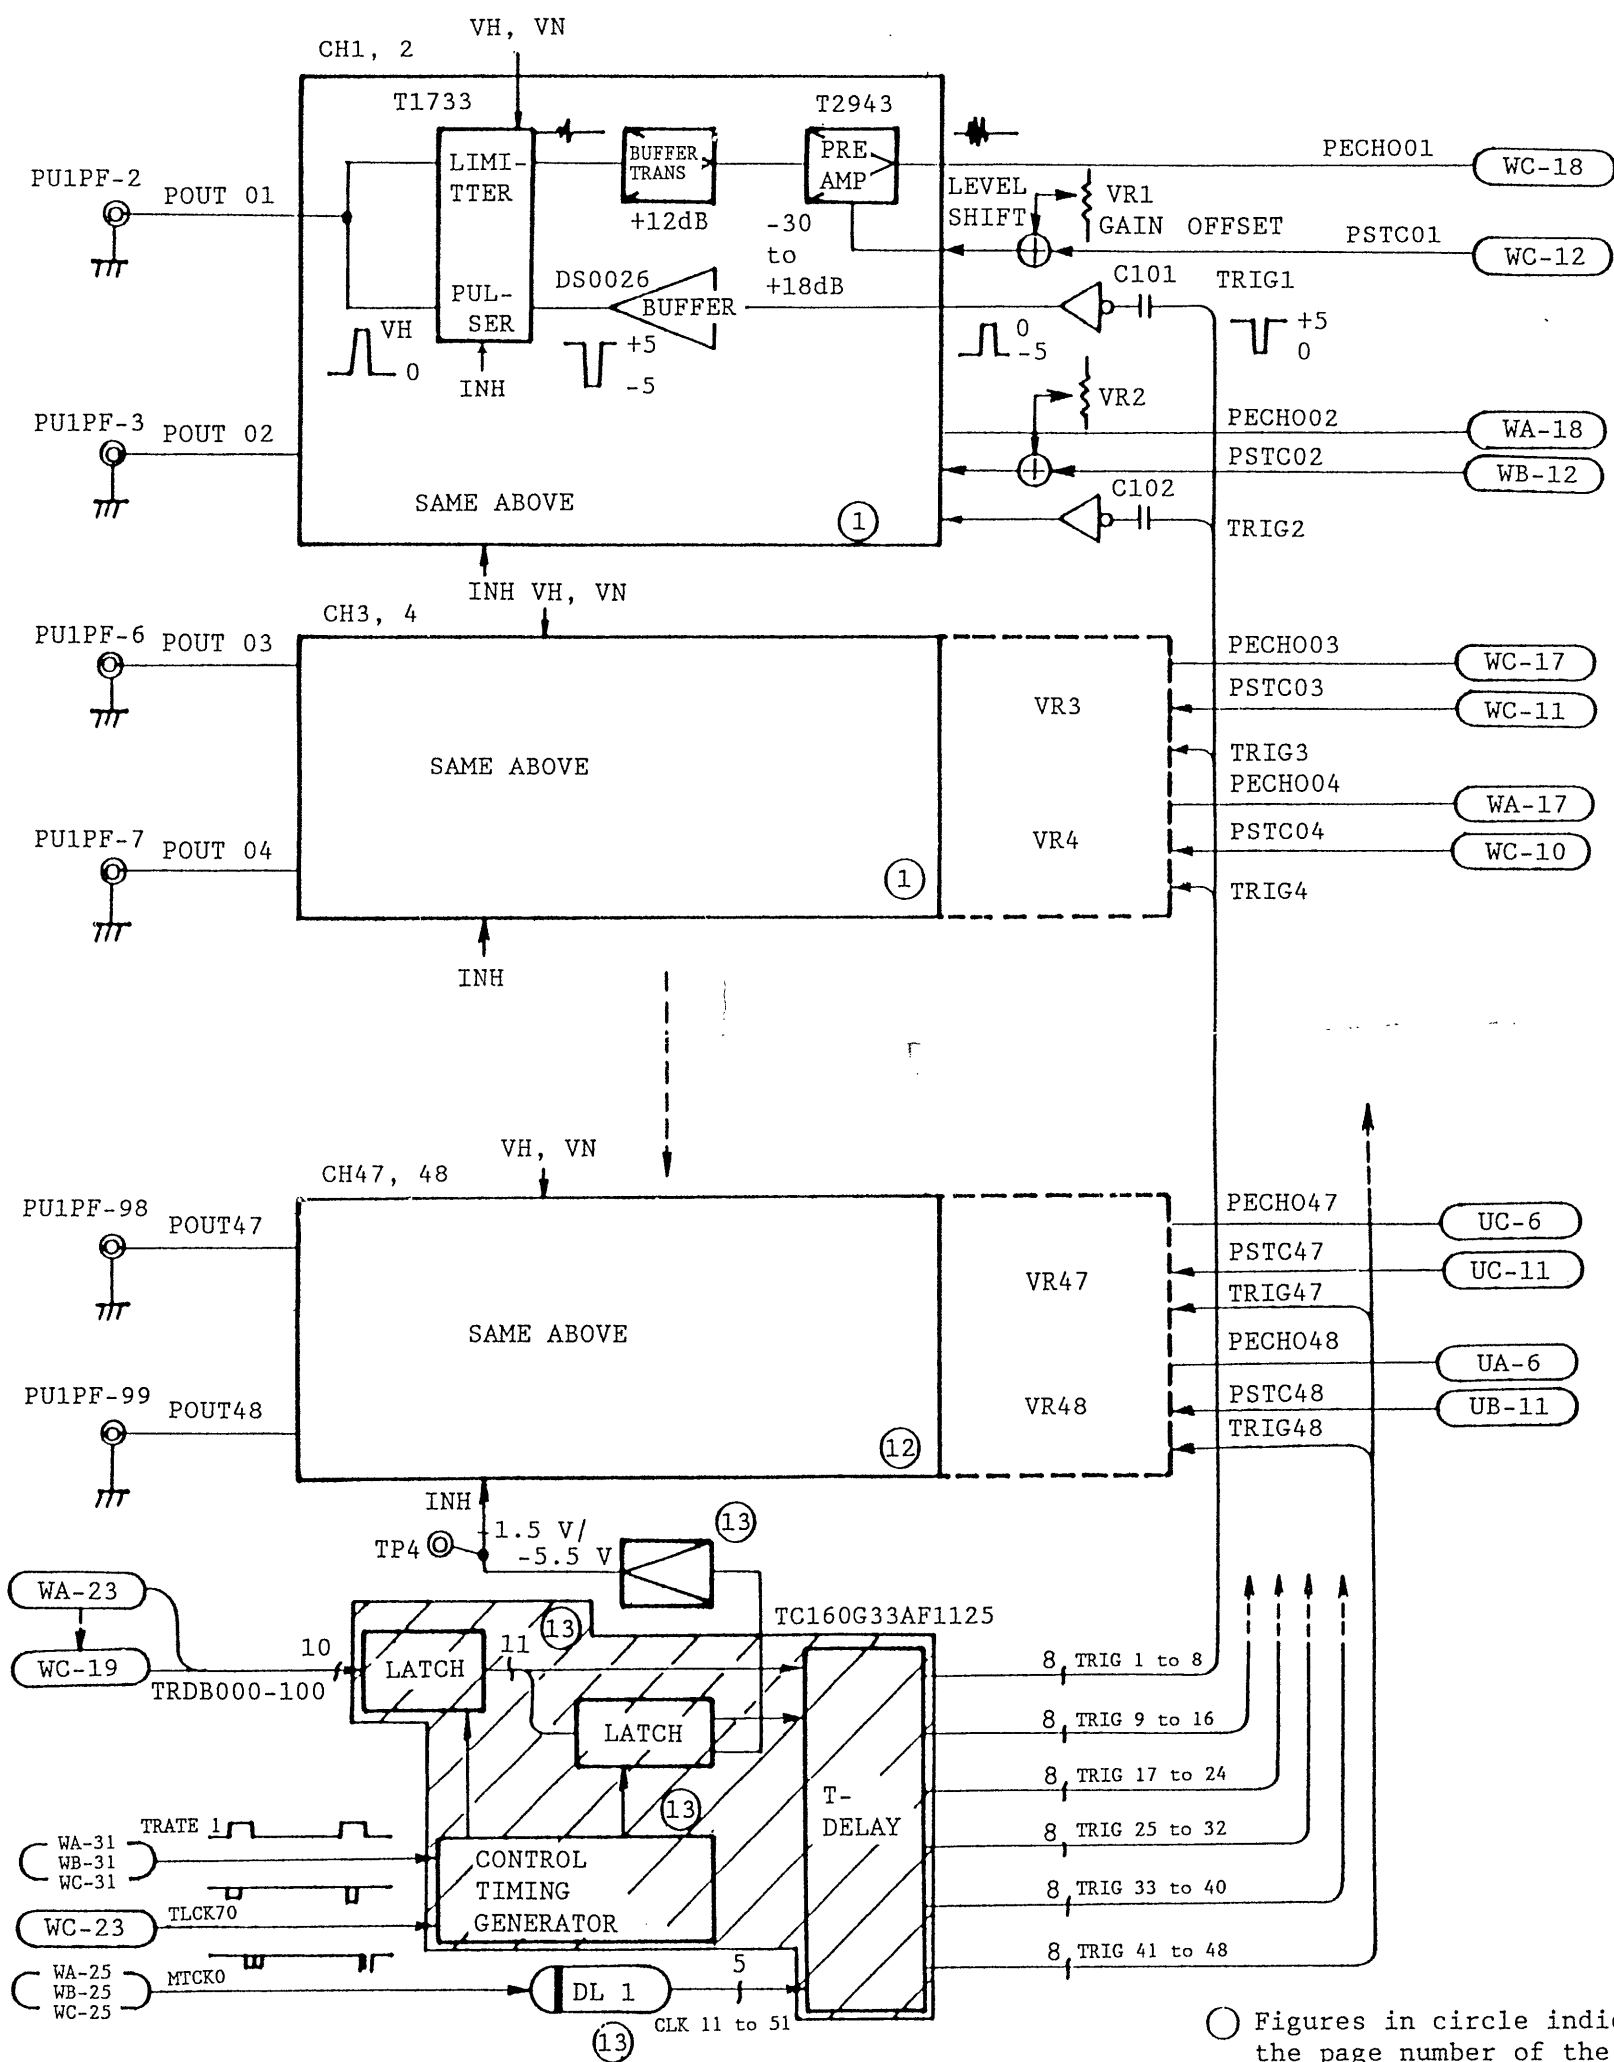

Figure 3.1-3 Block diagram for the PULSER
(2) Figure 3.1-3 shows block diagram.